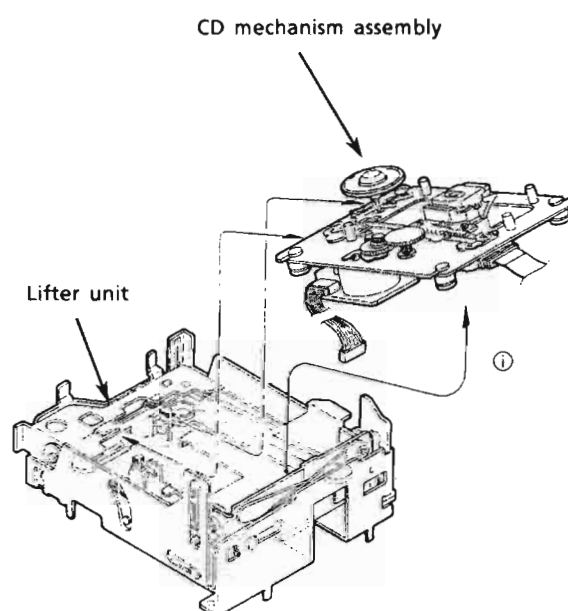

Fig. 38
2. Lift the CD mech. ass'y toward the direction ① to remove it from the lifter unit. (See Fig. 38.)